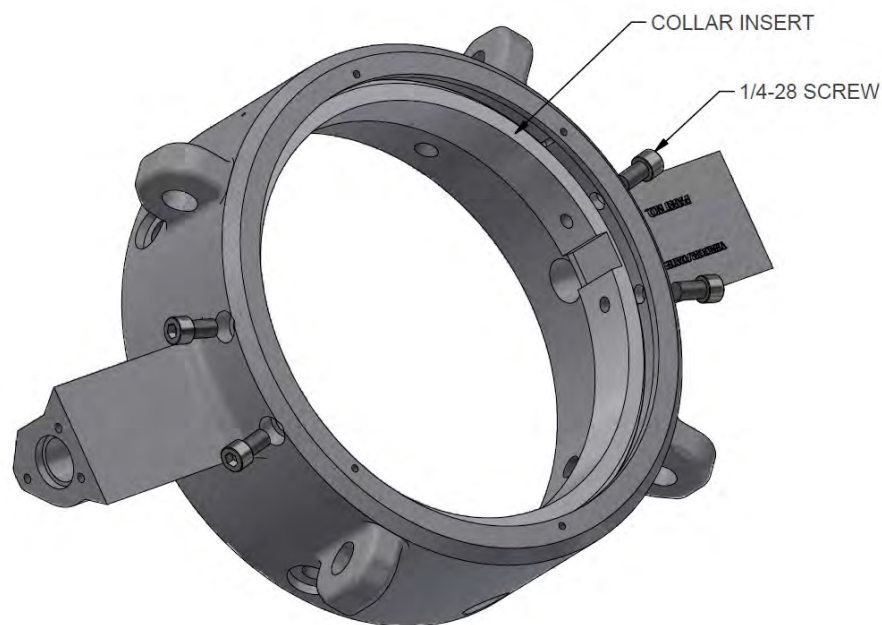

Figure 8-2 Replacing Collar Inserts
2. Remove the (4) 1/4-28 socket head cap screws from the collar with a hex wrench. This allows the collar insert to be removed from the collar.
9. Clean the collars to remove debris before reassembling the mast (Figure 8-2).